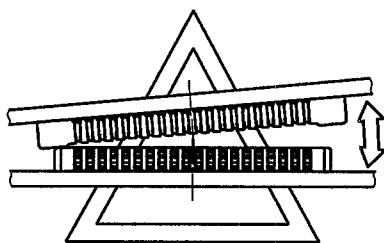

FIGURE-7
**⚠ IF YOU'RE UNABLE TO EXTRACT IN PARALLEL DUE TO SET STRUCTURE OR SPACE, PLEASE EXTRACT AS FIGURE-7 (IN LONGER DIMENSION). PLEASE BE CAREFUL NOT TO DAMAGE CONTACTS AT SIDES, WHERE STRESS IS LIKELY TO GATHER WHEN CONNECTORS ARE MOUNTED ON SOFT FPC.**